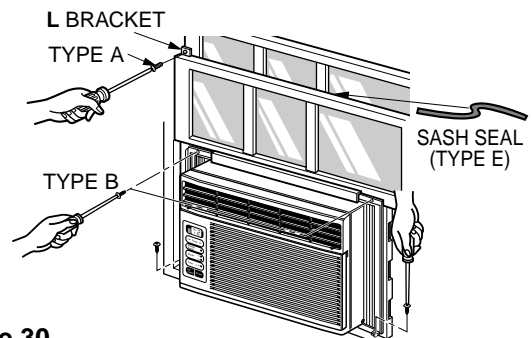

Figure 30
Extend the guide panels (TYPE F) to fill the window opening using 4 screws (TYPE B) to secure them, as shown in Figure. 30.
- Cut the sash seal (TYPE E) to the window width. Stuff the sash seal between the glass and the window to prevent air and insects from getting into the room, as shown in Figure. 30.
- Fasten the L bracket using a (TYPE A) screw, as shown in Figure. 30.